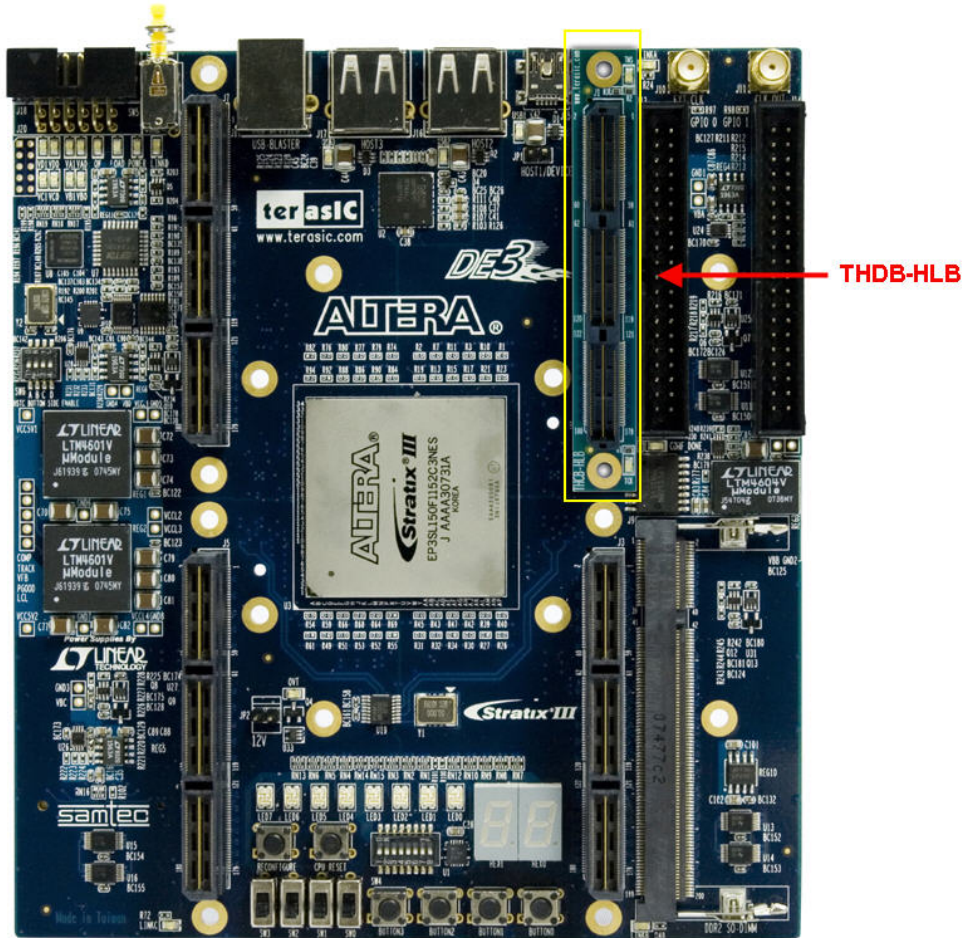

Figure D.2. The connection setup for THDB-HLB and DE3 board
4. Connect the THDB\_HLB adapter card to the HSTC connector which is needed to be tested as shown in Figure D.2.